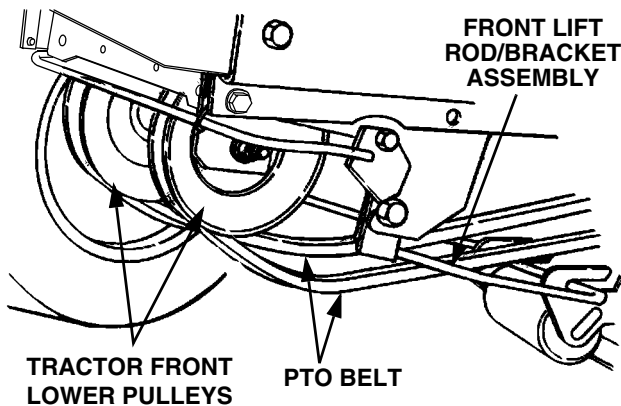

Figure 35
11. Pass the PTO belt downward, inside the tractor frame, until the belt is below the two tractor front lower pulleys. Twist the two sides of the PTO belt 1/4 turn inward to engage the narrow sides of the belt into the grooves of the two tractor front-lower pulleys (See Figure 35).